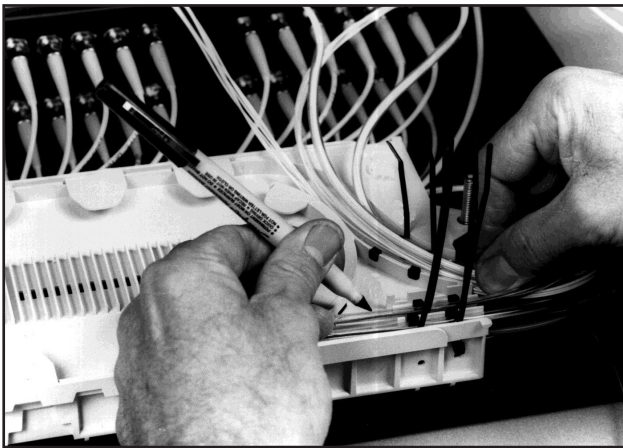

FIGURE 9 - MARK GROUPS IN SPLICE TRAY
- 8.05** Lay the Pigtail Assemblies within the wide entry slot of the Splice Trays and the provider fibers within the first two narrow slots and mark the groups slightly beyond the tie down locations.(Figure 9)